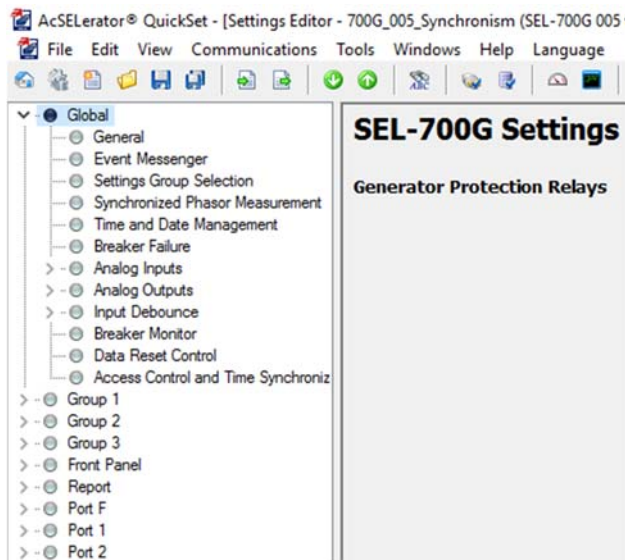

Figure 33: SEL-700G Settings Editor Main Window
9. Open Global settings in the drop-down menu on the left side of the Settings Editor main window (Figure 33).